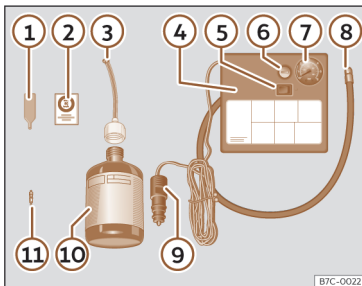

Fig. 34 Standard representation: anti-puncture kit contents.
The anti-puncture kit is located underneath the floor covering in the luggage compartment. It includes the following components »» Fig. 34:
- Unscrew the tyre valve cap and insert. Use the »» Fig. 34 ① tool to remove the insert. Place it on a clean surface.
- Shake the tyre sealant bottle vigorously »» Fig. 34 ⑩.
- Screw the inflator tube »» Fig. 34 ③ into the sealant bottle. The bottle's seal will break automatically.
- Remove the lid from the filling tube »» Fig. 34 ③ and screw the open end of the tube into the tyre valve.
- Place the insert back into the tyre valve using the tool »» Fig. 34 ①.
- Screw the compressor tyre inflator tube »» Fig. 34 ⑧ into the tyre valve.
- Check that the air bleed screw is closed »» Fig. 34 ⑥.
- Insert the connector »» Fig. 34 ⑨ into the vehicle's 12-volt socket »» page 145.
- Turn the air compressor on with the ON/OFF switch »» Fig. 34 ⑤.
- Attach the sticker >>> Fig. 34 ② to the instrument cluster, within the driver's visual field.
Screw the inflator tube >>> Fig. 34 ⑤ again and check the pressure on the gauge ⑥.